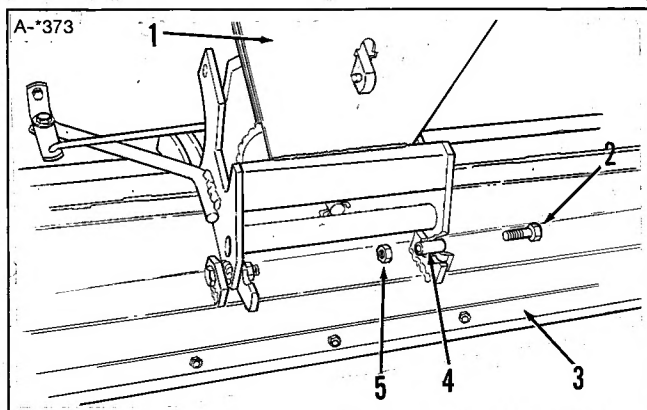
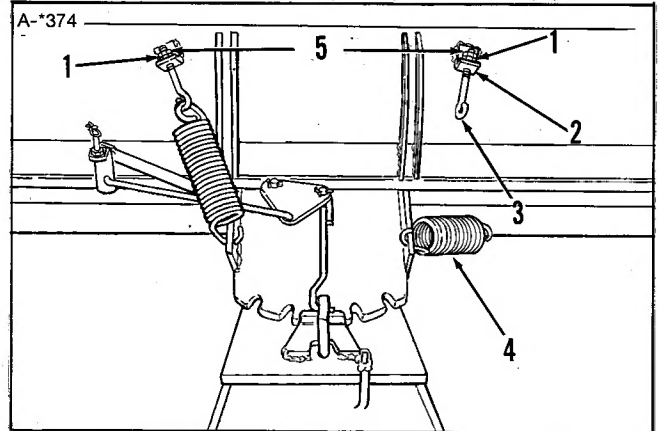

Figure 1. Attach Push Bar to Back of Blade
Figure 2. Install Springs
1. Insert a spacer (4, figure 1) into each of the two mounting holes of the push bar (1).
2. Place blade assembly (3) face down on the ground. Then place push bar (1) in mounting brackets on back of blade assembly.
3. Install 1/2 x 2-1/4 capscrews (2) through holes in push bar and blade mounting brackets. Then install and tighten locknuts (5).
4. Tilt push bar backwards to ground so blade is vertical as shown in figure 2.
5. Insert eyebolt (3, figure 2) through lug (2) and install 5/16 nut (1) so its outer face is flush with end of eyebolt.